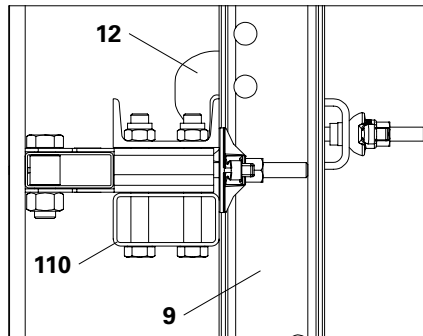

Fig. C4.04a
5. Position the Strongback (9) on Formwork Waler 150 CB (110) according to the bracket spacing, and secure. Bottom projecting length: see project drawing or Section C1.
6. Mount Waler Fixation U 100 – U120 (12) and secure in position by tightening the quick jack nut. (Fig. C4.04a + C4.04b)